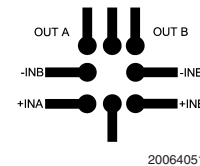

FIGURE 5. Typical PCB Layout
4. The output trace should be routed away from inputs. The ground plane should extend between the output and inputs to act as a guard. This can be achieved by running a topside ground plane between the output and inputs. A typical PCB layout is shown in Figure 5.